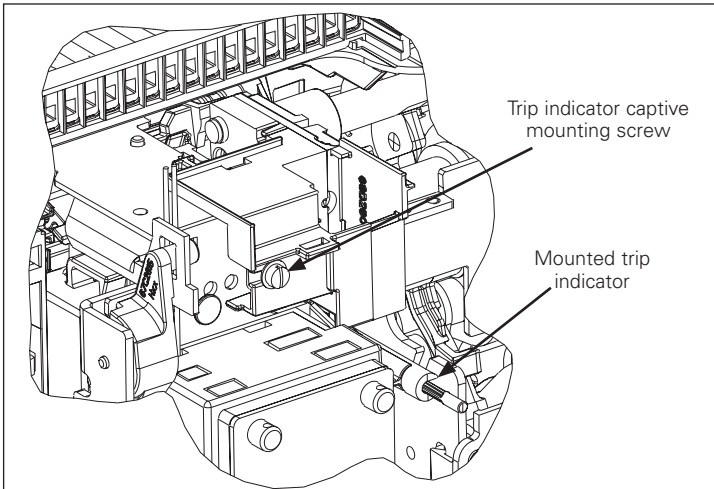

Figure 12. Step 2.
Step 4: Loosen the captive mounting screw (see Figure 12).